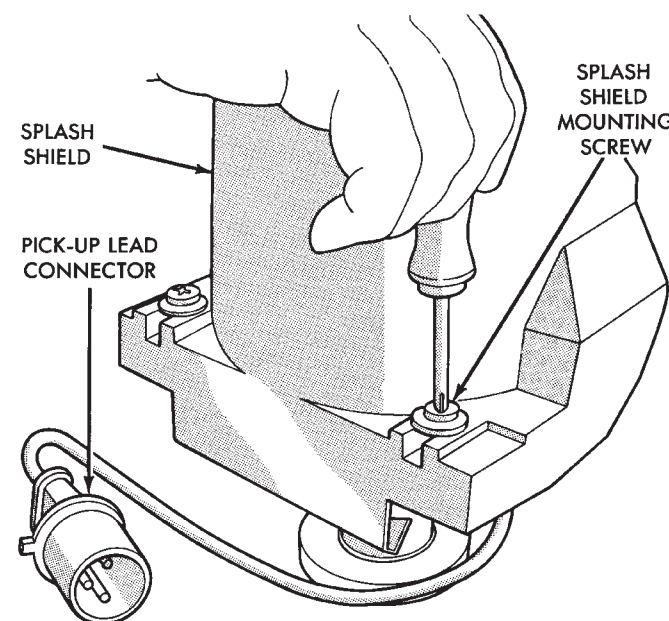

Fig. 14 Distributor Pickup Connector—2.5L Engine
(1) Disconnect distributor pick-up connector from wiring harness connector (Fig. 14).